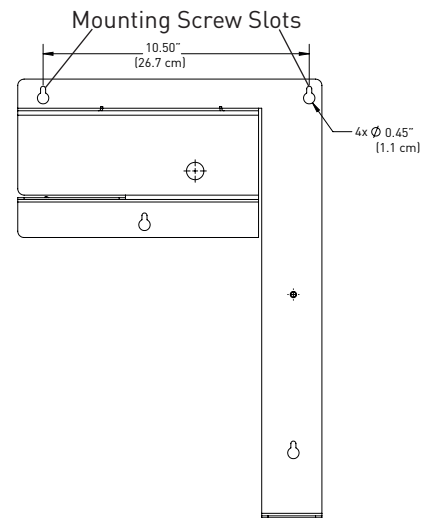

Figure 2
2. When mounting the Conserv LT-S Processor on a wall, four (4) screws are required to mount the unit. The two (2) top screws will be 10.5" (26.7 cm) apart and level. Screw the two (2) screws into the wall. Leave a gap between the screw head and the wall of 1/8". The backside of the unit has two (2) slots that will fit over the screw heads and slide down to lock (Figure 2).
4. Insert screws into the two (2) remaining mounting holes. Screw them in and tighten.